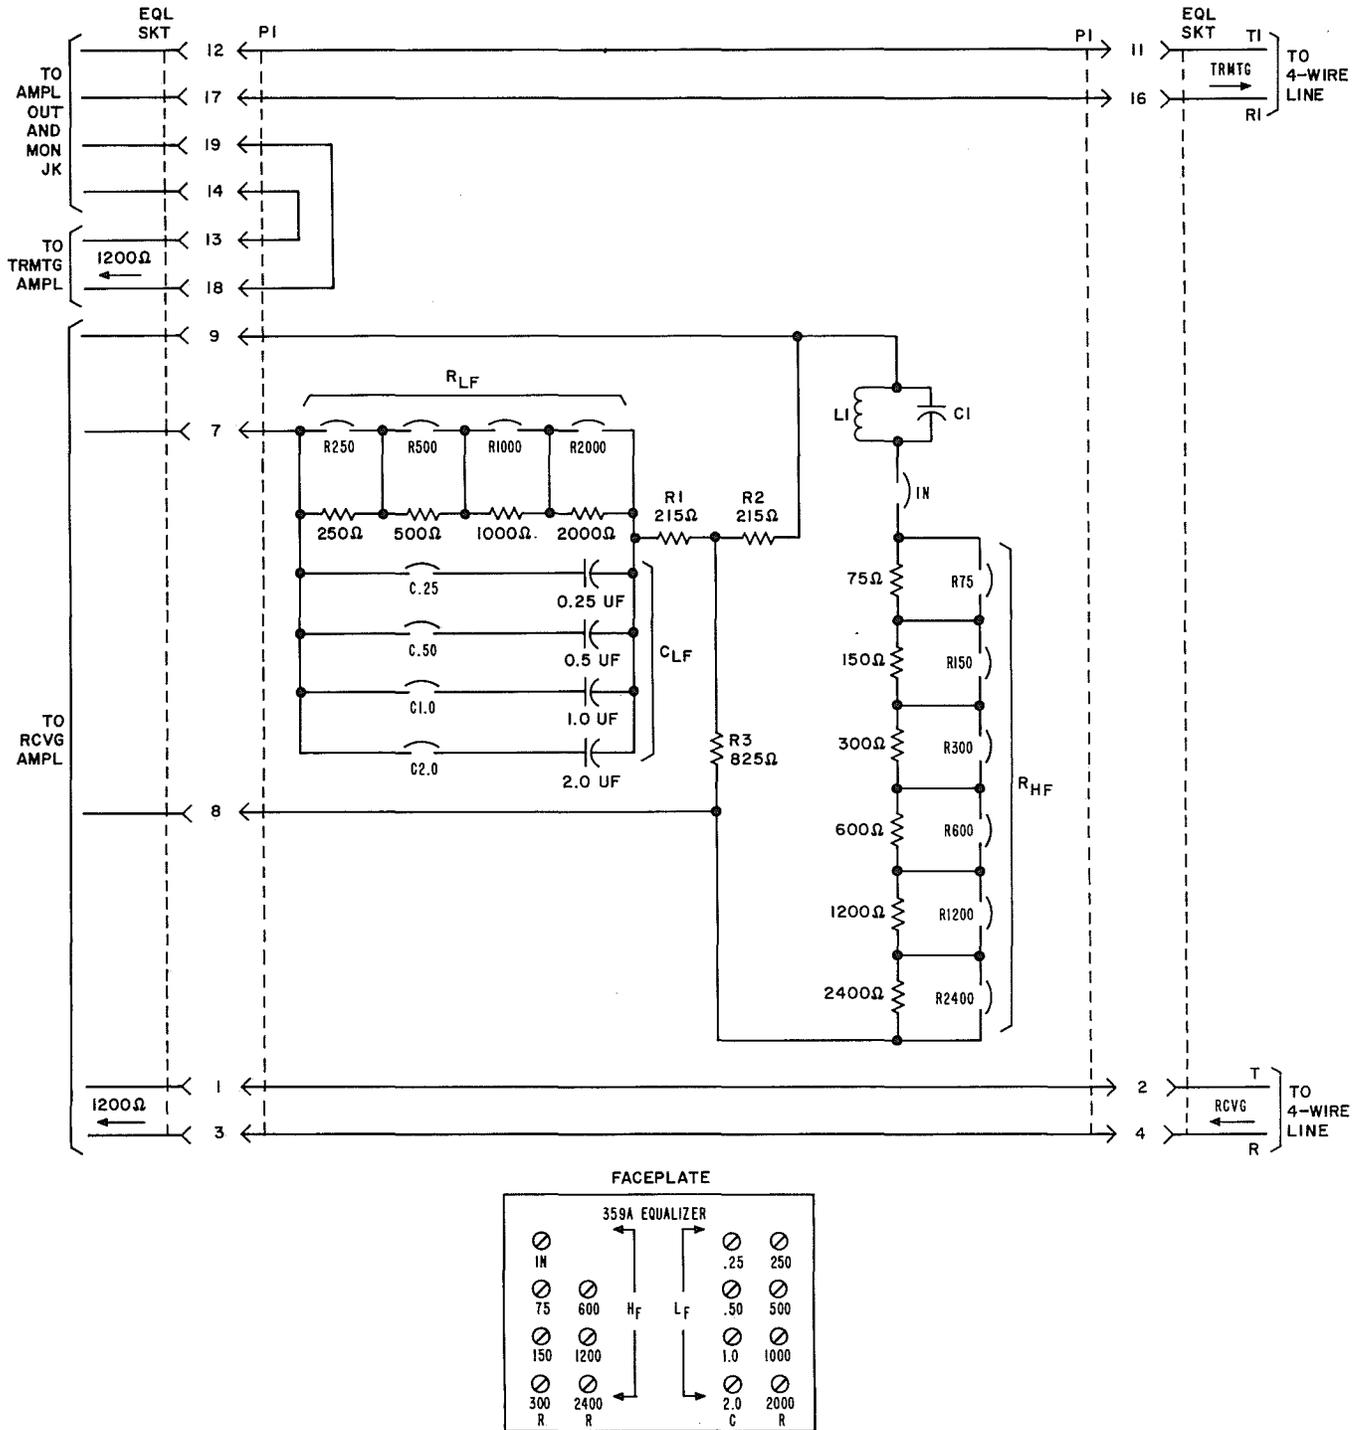

Fig. 3—359A Equalizer—Schematic and Typical Circuit Connection
3.02 Figure 3 is a schematic of the 359A equalizer illustrating typical circuit connections when plugged into the equalizer socket of a 24V4 or 44V4 repeater. The transmitting side of the 359A equalizer provides no equalization but does provide connections to the AMPL OUT and MON jacks and thus connects the 1200-ohm transmitting amplifier output to the H88-loaded 4-wire line.